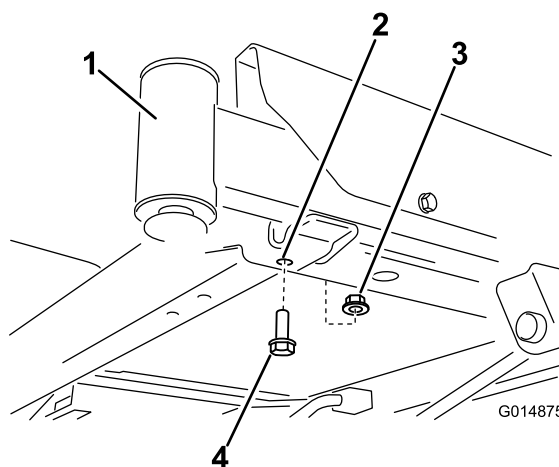
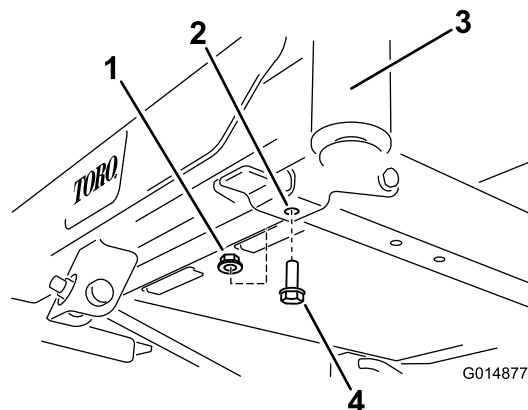

Figure 3
Figure 4
2. Locate the forward bolts on the underside of the frame (Figure 3 and Figure 4). Remove the two bolts (3/8 x 1 inch) and two locknuts (3/8 inch). Retain the lock nuts.